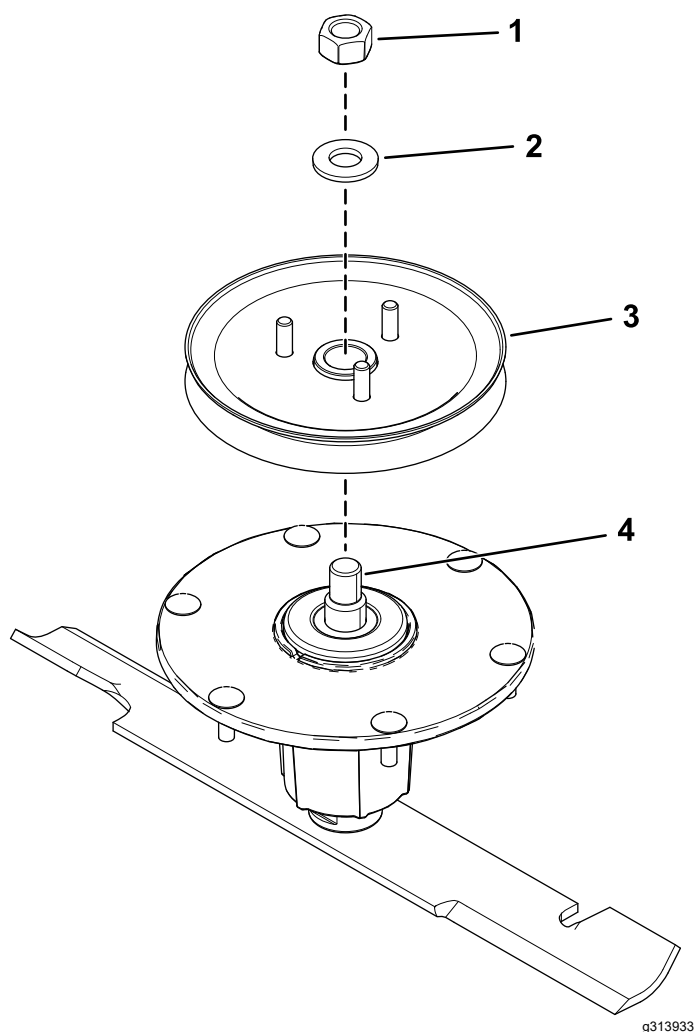

Figure 9
3. Install the sheave assembly to the spindle using the washer and top nut (Figure 9).